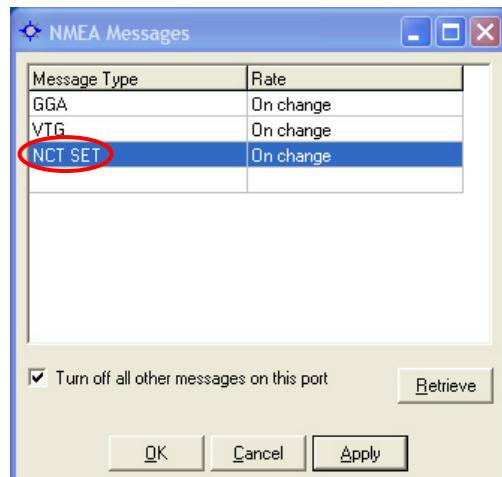

Figure 22: NCT SET
- NCT SET scheduled for output in the NMEA Messages window (see Figure 22)